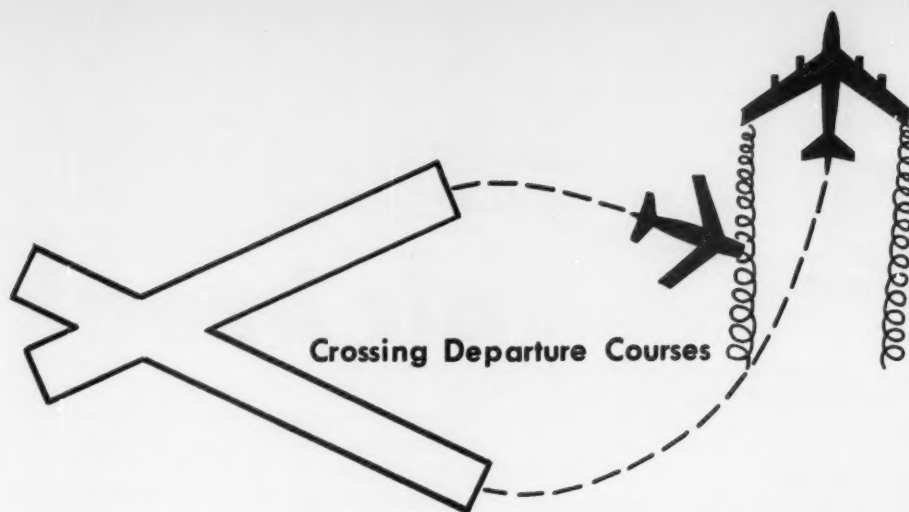
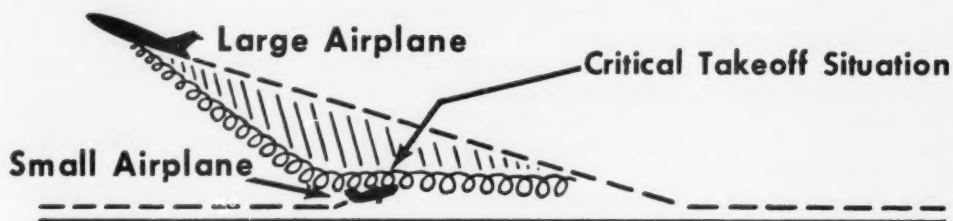

Fig. 15
Fig. 16
- Departing behind a large aircraft. Note the aircraft's rotation point and rotate prior to this point. Continue to climb above and stay upwind until turning clear of his wake (see Fig. 14). Avoid headings which will cross below and behind a large aircraft (see Fig. 15). Be alert for any critical takeoff situation which could lead to a vortex encounter (see Fig. 16).